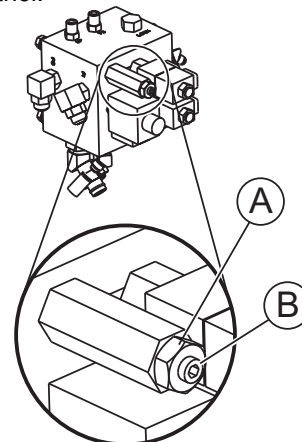

Figure 31. Pitch Pressure Adjustment
3. Loosen jam nut on pitch block relief valve (Item A, Figure 31).
4. Adjust the relief valve (Item B, Figure 31) with allen wrench to proper pressure (2300 PSI)